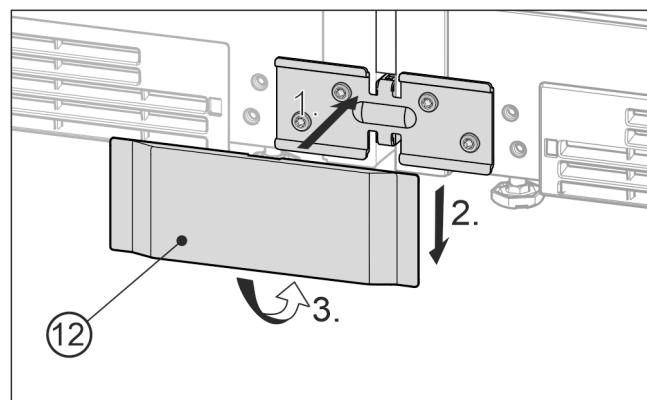

Fig. 20 Example illustration
- ▶ Place the bottom cover Fig. 20 (12) onto the bracket from the front Fig. 20 (1), slide it down Fig. 20 (2) and snap it in at the bottom Fig. 20 (3).